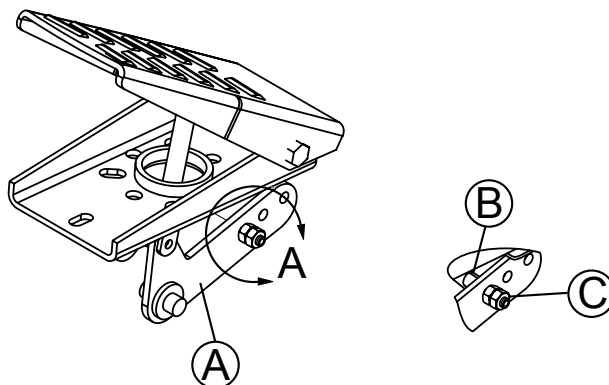

Figure 24. Sensor Adjustment
2. Using 7/16 wrench, rotate foot pedal shaft (Item B, Figure 24), while holding foot pedal lever (Item A, Figure 24) in upright position, until % sensor voltage is 15% to 25%.
3. Verify that jamb nuts are tight (Item C, Figure 24)